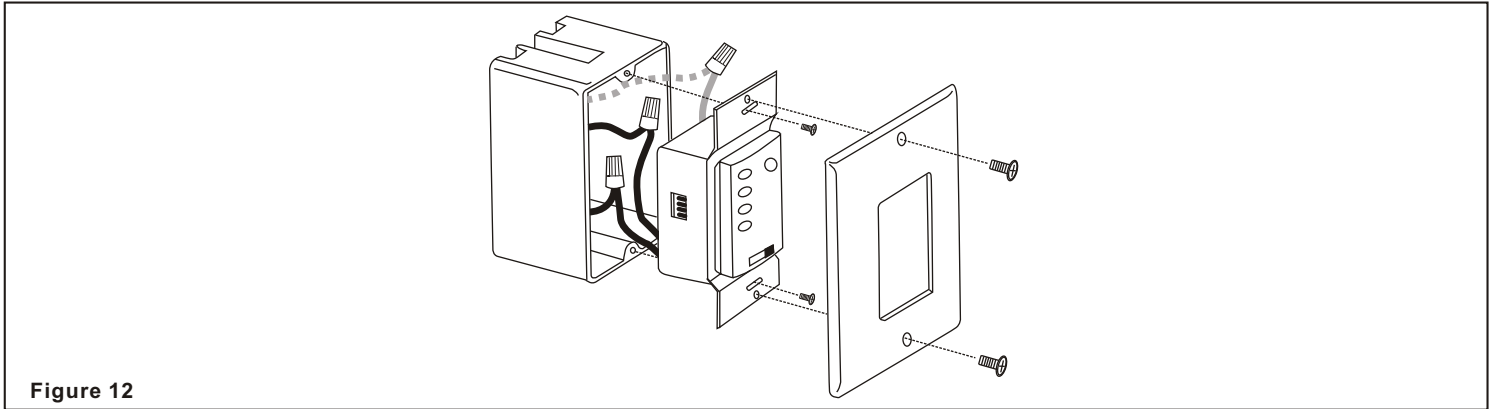

Figure 12
Step 3. (Fig. 12) Carefully tuck the wire connections inside the junction box. Secure the wall transmitter with the two screws provided. Attach the wall plate over the wall transmitter and secure with the two screws provided.